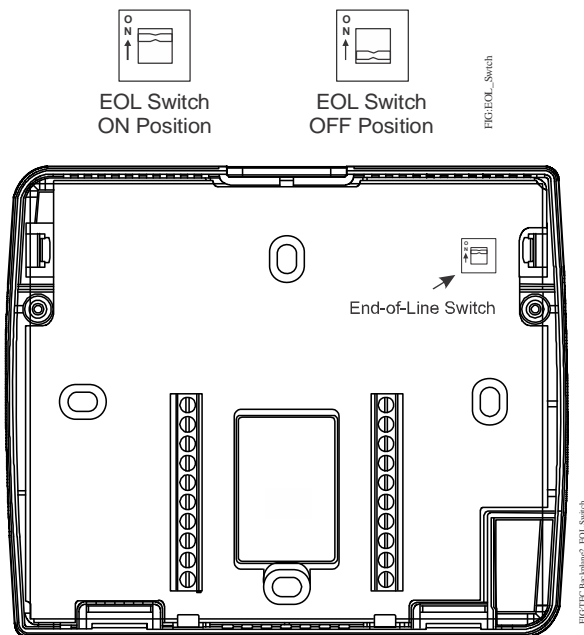

Figure 6: EOL Switch Positions
The bus end-of-line (EOL) termination switch allows you to designate the thermostat controller as the end of the Field Controller (FC) Bus and N2 Bus. The default position is OFF. If the thermostat controller is at the end of a daisy chain of devices on the FC Bus and N2 Bus, set the EOL switch to the ON position. See Figure 6.